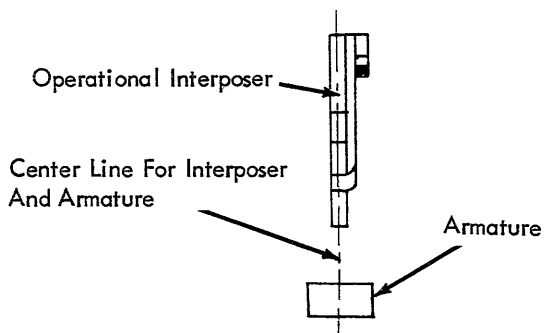

FIGURE 125. Left to Right
- a. Left to Right - so that the armatures are directly beneath their corresponding interposers (Fig. 125).